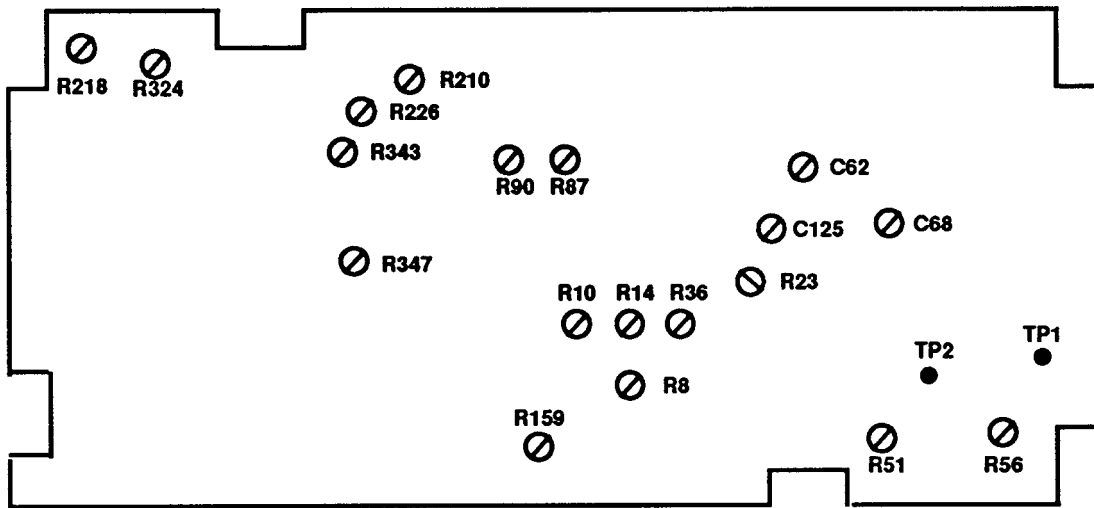

Figure 2. Test instrument - bottom view.
(1) Adjust R36 (fig. 2) until oscilloscope indicates a duty cycle between 49.5% and 50.5% (R).
(2) Adjust R23 (fig. 2) until oscilloscope indicates a duty cycle between 45% and 55% (R).
(7) Adjust **TI AMPLITUDE** control fully ccw and disconnect audio analyzer.
b. Adjustments. Adjust R87 and R90 (fig. 2) for minimum distortion, less than 0.5% as indicated on audio analyzer (R).
¹Set frequency dial to .02 and adjust R8 (fig. 2) for 200 Hz on frequency counter.
²Connect multimeter between TP1 and TP2 ground (fig. 2). Adjust R56 (fig. 2) for 0 ±1 mV dc on digital multimeter (R).